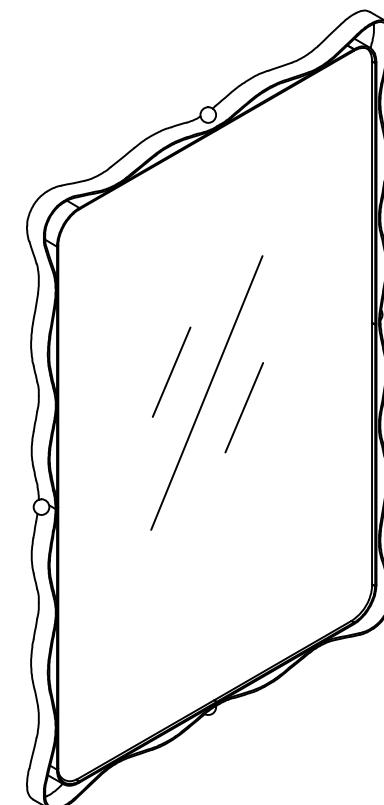

FIGURE 1A
- CONCRETE: Drill pilot hole on each marking, and then insert plastic anchor. use a screwdriver to attach the bracket to the wall with screws. See FIGURE 1A